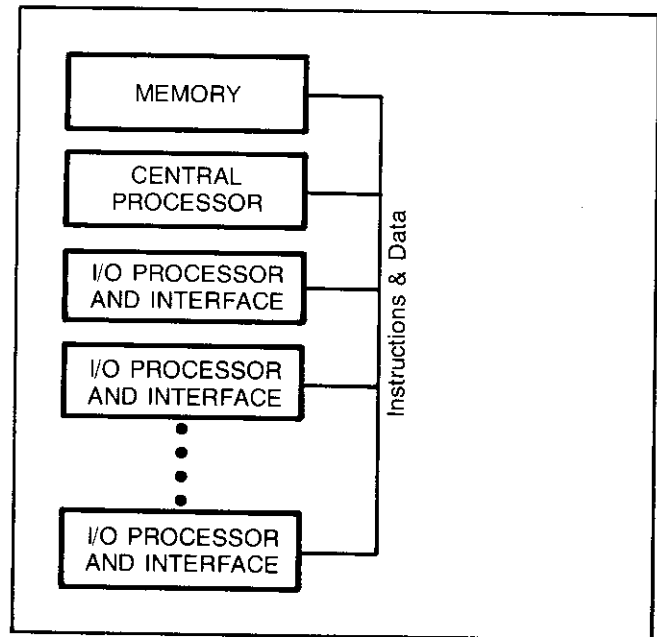

Figure 1. L-Series Functional diagram
Of the principal functions of a computer, computation and input/output are usually both controlled by the central processor. In the Model 5 Microsystem, the high circuit density and cost savings realized by using CMOS/SOS/LSI circuits have made it practical to relieve the central processor of the burden of I/O processing. That function is instead performed by individual, custom-designed SOS/LSI I/O processors (IOPs) on each interface card. The IOPs provide highly-efficient DMA-per-channel I/O, minimizing overhead and speeding throughput. The central processor, the IOPs on interfaces, and memory all communicate with each other via a common bus, as shown in Figure 1.
**Type:** Distributed intelligence with separate CPU and I/O Processors communicating with each other and with memory via a single bus, as shown in Figure 1.